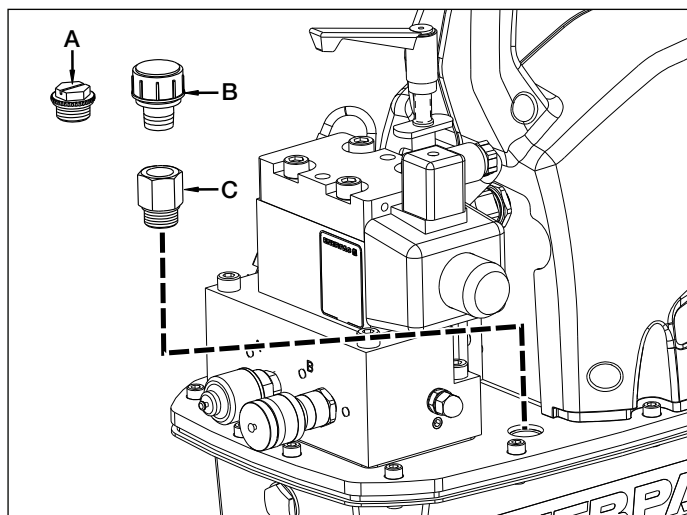

Figure 2, Air Breather (ZU4 shown, ZE4 and ZE5 similar)
4.2 Air Breather (See Figure 2)